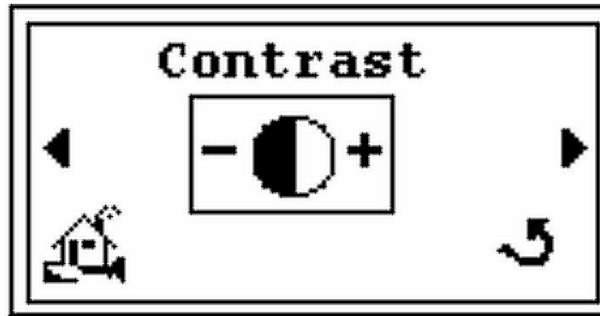

Figure 2-47 Contrast - Initial Screen
4. Press the ► and the *Contrast* screen appears (Figure 2-47).